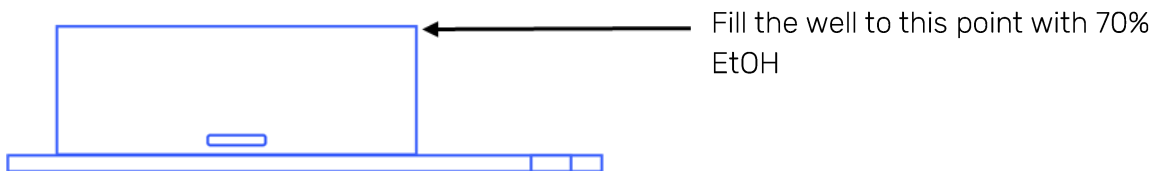

Figure 2: Side view diagram of CorePlate™ 1W-3D showing the fill level of the well.
2. **70% EtOH Application.** Fill the Well of CorePlate™ 1W-3D completely with 70% ethanol up to the rim of the Well Wall (Fig. 2).